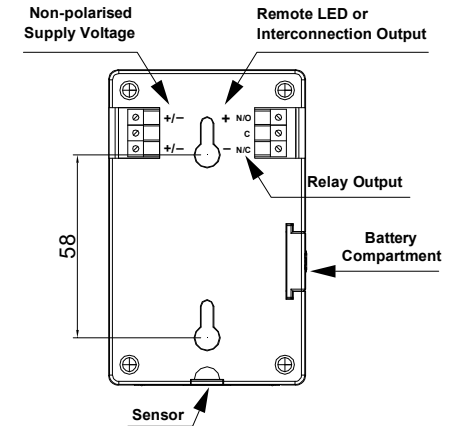

Fig. 2 –Wiring connections
2. Install the interconnect wiring to the terminals as shown in Fig. 2.
1. Install the wiring from the ancillary equipment to the terminals as shown in Fig. 2.